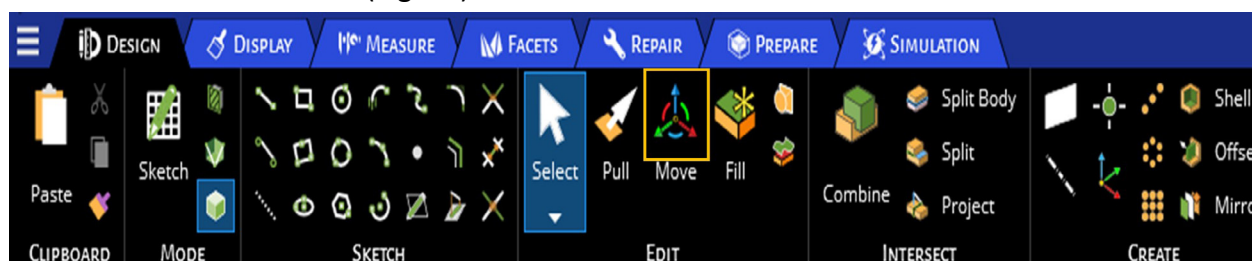

Figure 18: Selecting Move tool.
2. Select the “Move” tab (Fig. 18).